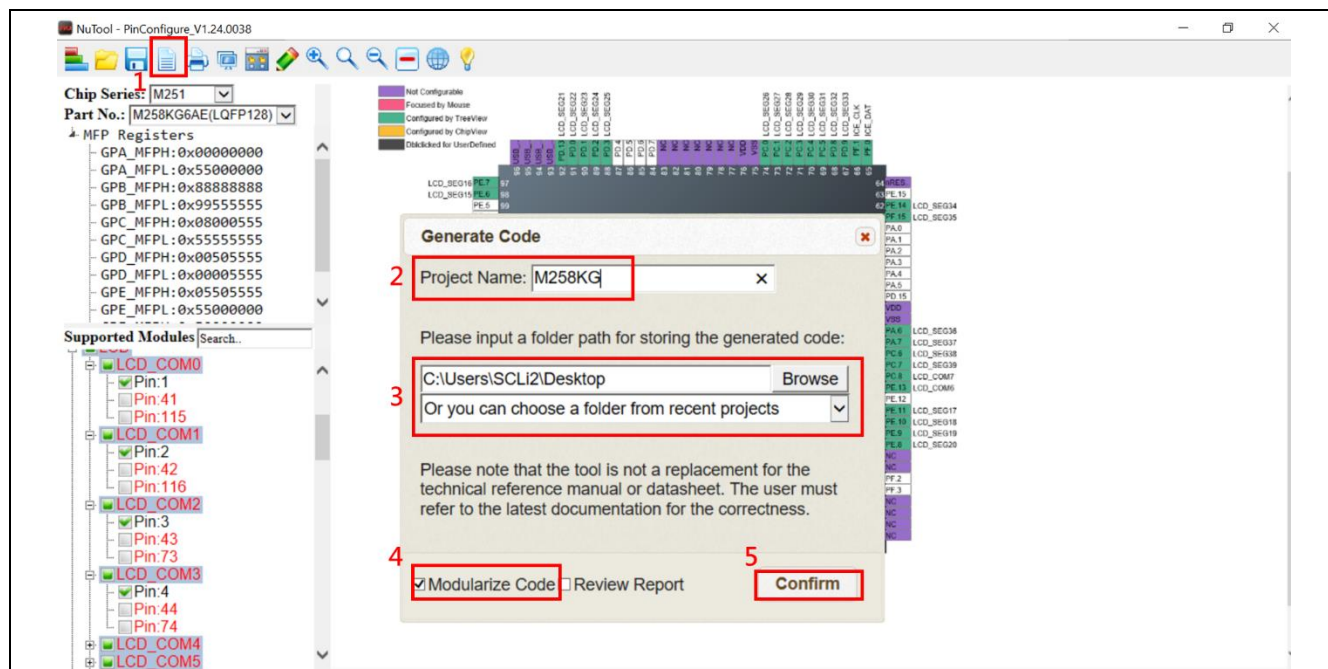

Figure 1-3 Save a NuTool-PinConfigure Project
- Choose Generate Code, as the steps shown in Figure 1-3, then the NuTool-PinConfigure will generate a project file “M258KG.cfg” and a pin define file “M258KG.c”, which are applied later and Chapter 2 respectively.